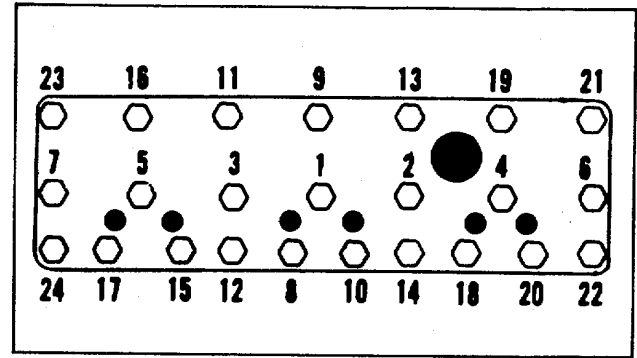

Figure 5-1. Cylinder Head Screw Tightening
a. Using a torque wrench, tighten cylinder head nuts and stud nuts in the sequence shown in Figure 5-1.